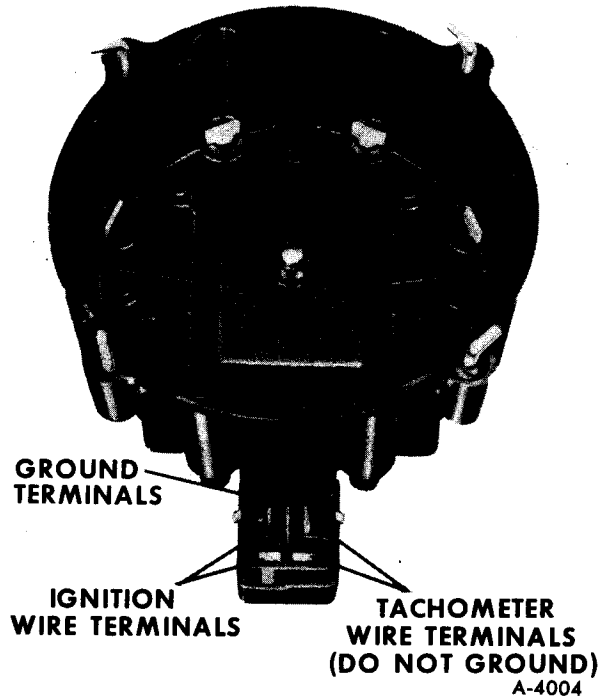

Figure 17—Terminals on Distributor Cap
2. Check that all spark plug leads are properly connected at distributor (figure 17) and spark plugs.